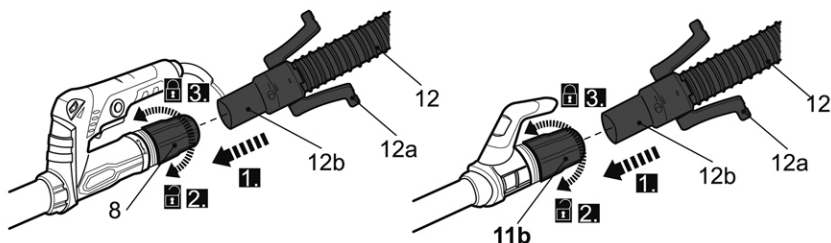

Fig. 7
1. Insert the vacuum hose connector(**12b**) into dust extraction outlet(**8,11b**) all the way to stop directly(Fig. 7,step 1).
2. If it is hard to insert, please loosen the sleeve on the dust extraction outlet(**8,11b**)(Fig. 7,step 2).
3. Secure the connection by tightening the sleeve on the dust extraction outlet(**8,11b**)(Fig. 7,step 3)